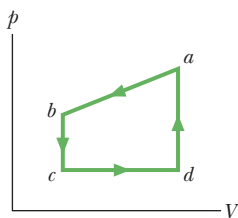

Figure 18-42 Problem 49.
**•49**  Figure 18-42 represents a closed cycle for a gas (the figure is not drawn to scale). The change in the internal energy of the gas as it moves from  $a$  to  $c$  along the path  $abc$  is  $-200$  J. As it moves from  $c$  to  $d$ ,  $180$  J must be transferred to it as heat. An additional transfer of  $80$  J to it as heat is needed as it moves from  $d$  to  $a$ . How much work is done on the gas as it moves from  $c$  to  $d$ ?